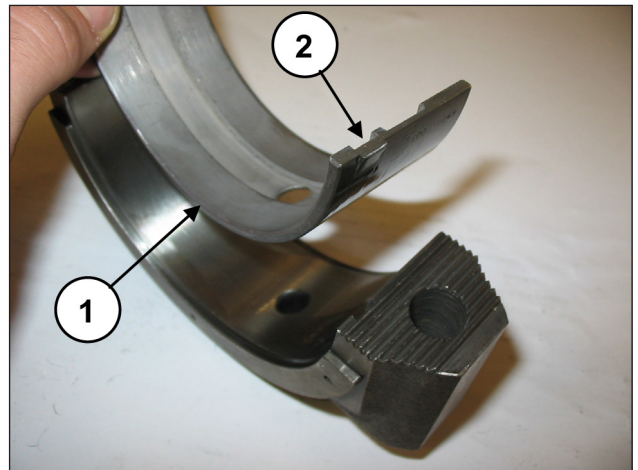

Fig. 83
Apply the lower half-bearings to the caps (pos. ①, Fig. 83) ensuring that the half-bearing reference notches are positioned in their housing on the cap (pos. ②, Fig. 83).